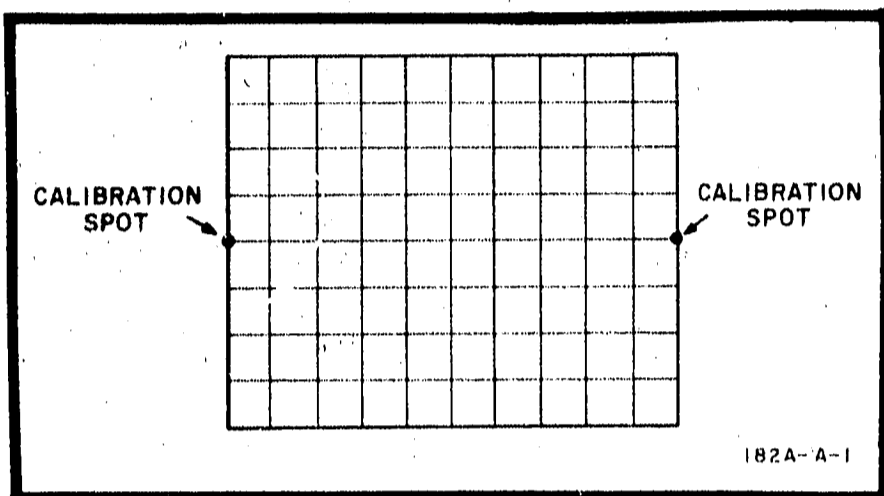

Figure 5-10. Calibration Display
e. While alternately connecting and disconnecting resistor to emitter of A7Q3, adjust X1 Gain Adj A7R40 for exactly 10 major divisions of separation between spot positions (figure 5-10).